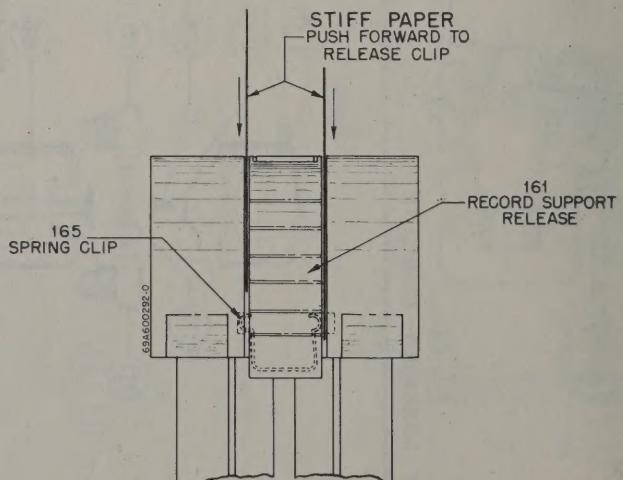

FIGURE 13. REMOVAL OF RECORD SUPPORT RELEASE
in place with a spring clip (165). To release the clip, place a piece of stiff paper on both sides of the release hinge, between the release hinge and the slide cover (159). See Figure 13. Pull the paper forward, simultaneously lifting upward on the release hinge.
- Remove the four machine screws (164) holding the slide release hinge bracket (162).